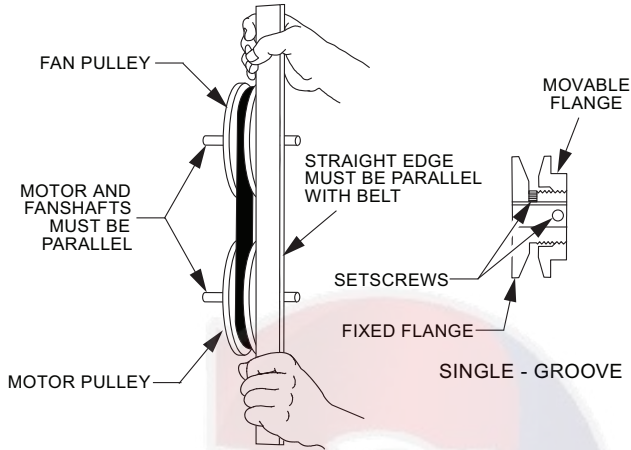

Fig. 8 — Supply-Fan Pulley Adjustment
2. Slide the fan pulley along the fan shaft. Make angular alignment by loosening the motor from its mounting. See Fig. 8.
24. Align the motor pulley and blower wheel pulley using a straight edge. See Fig. 8.